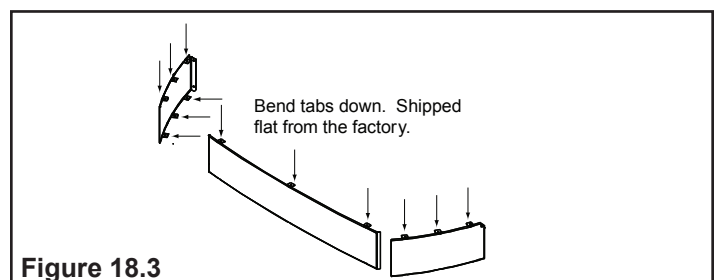

Figure 18.3
2. Lay front and sides face down. Bend the tabs down toward the inside. **Figure 18.3**